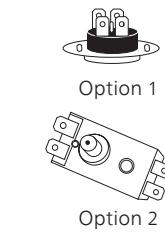

fig. 8
- unscrew the nut fastening the thermal switch fixed on the heating element flange, turn the thermal switch over and press until it clicks the button located in the center of the thermal switch (Fig. 8) \*; – if the button is not pressed and there is no click, then wait until the thermal switch cools down to the initial temperature.